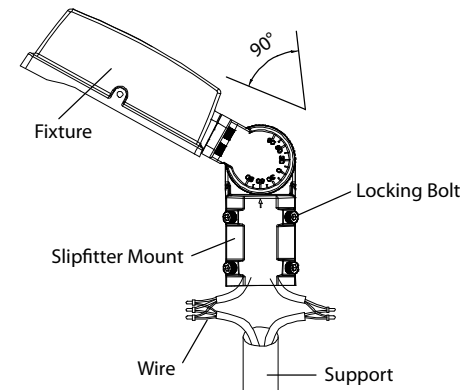

Fig. 3
1. Place the **Slipfitter** over the **Tenon** and secure the **Fixture** with the **Screws** on the side of the **Slipfitter** as shown in Fig. 3.